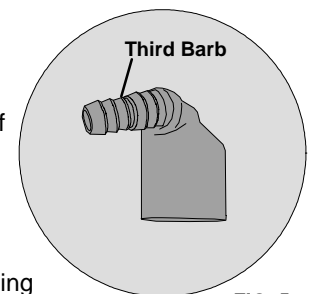

FIG. 5
- For a leak-free connection, the tubing must sit fully up to the third barb. (See Fig. 5)